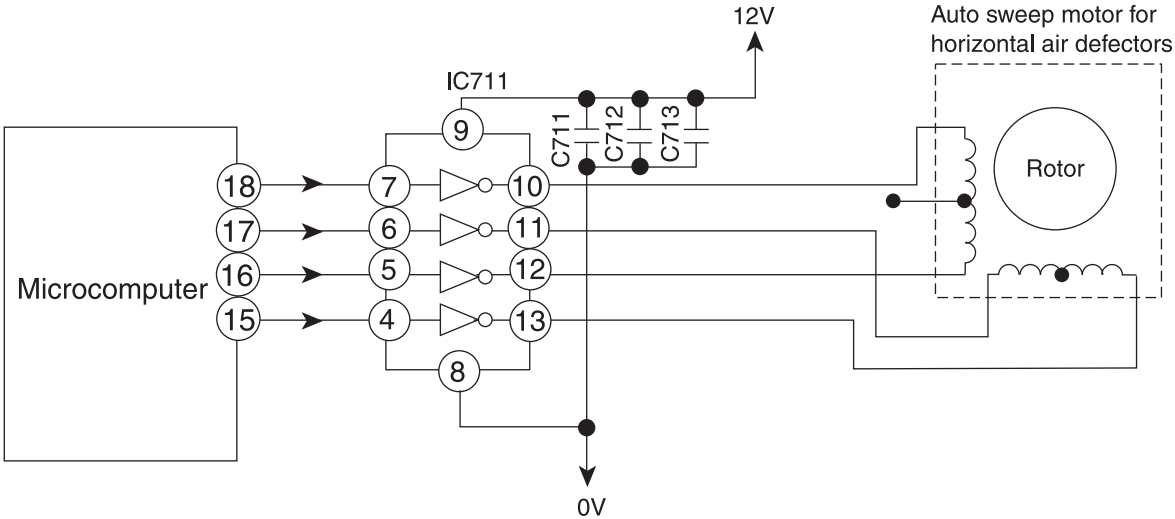
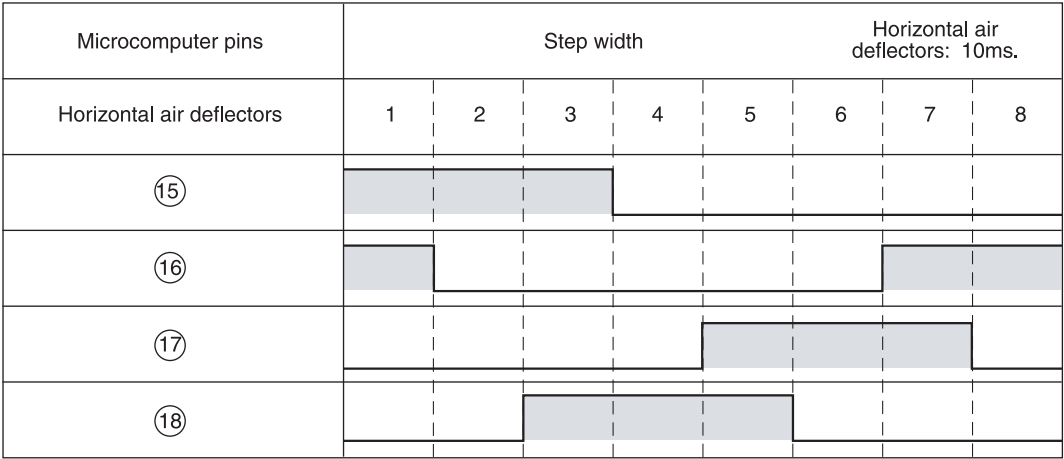

Fig.4-1
Fig.4-2 Microcomputer Output Signals
- Fig. 4-1 shows the Auto sweep motor drive circuit; the signals shown in Fig.4-2 are output from pins 15 – 18 of microcomputer.
- As the microcomputer’s outputs change as shown in Fig.4-2, the core of the auto sweep motor is excited to turn the rotor. Table 4-1 shows the rotation angle of horizontal air deflectors.